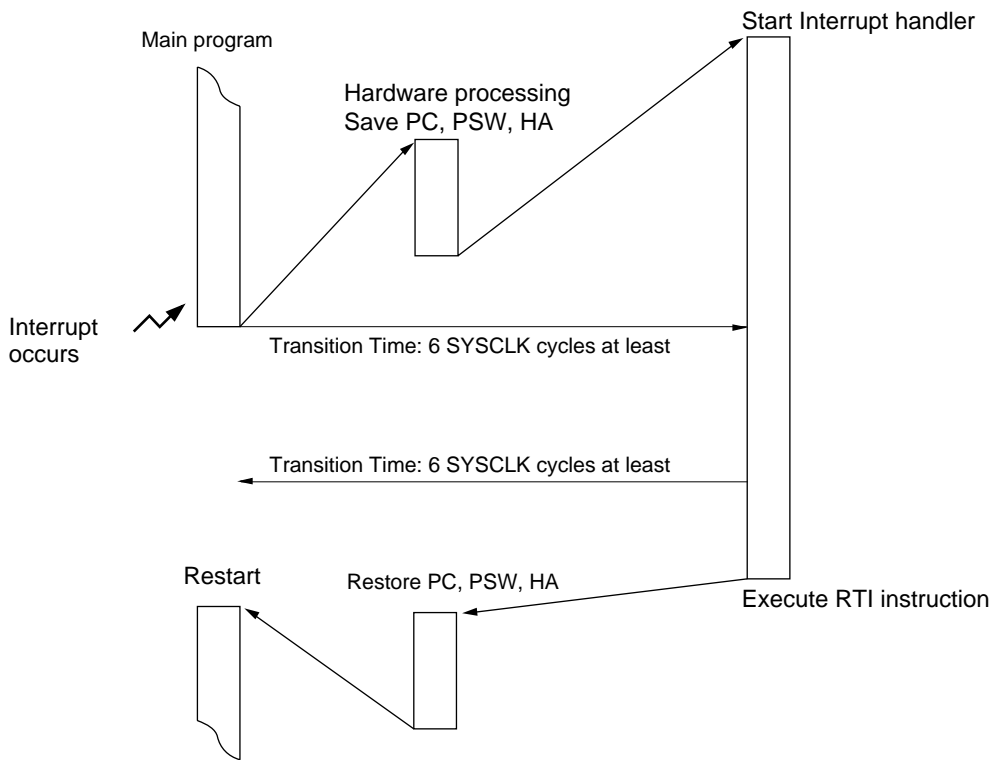

Figure:3.1.2 Interrupt Processing Sequence
Figure:3.1.2 shows the flow of a interrupt processing. When an interrupt occurs and is accepted, the Program Counter (PC), Processor Status Word (PSW) and Handy Address (HA) are saved onto the stack by hardware, and CPU jumps to the address specified by the corresponding interrupt vector. At the end of interrupt handler, execute the "RTI" instruction to go back to the main program which had been executed before the interrupt was accepted.